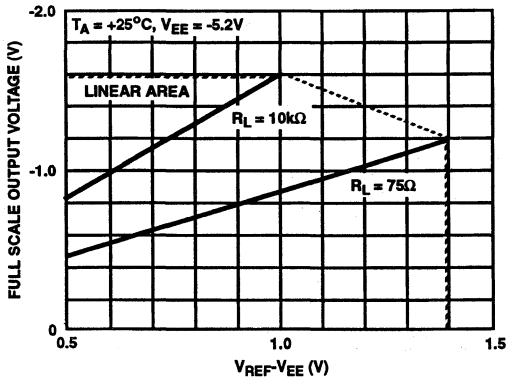

FIGURE 2. $V_{O(FS)}$ RATIO vs ($V_{REF}-V_{EE}$)
The Full Scale output voltage is set by the Voltage Reference pin (27). The output voltage performance will vary as shown in Figure 2.